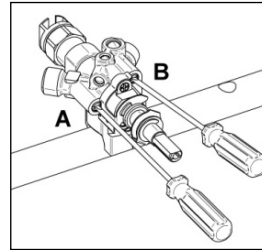

Fig 10B
- For the gas valve of dual burner the choke valve is located on the valve body (fig. 10B) , the A screw adjust the outer ring, the B screw adjust the inner ring.